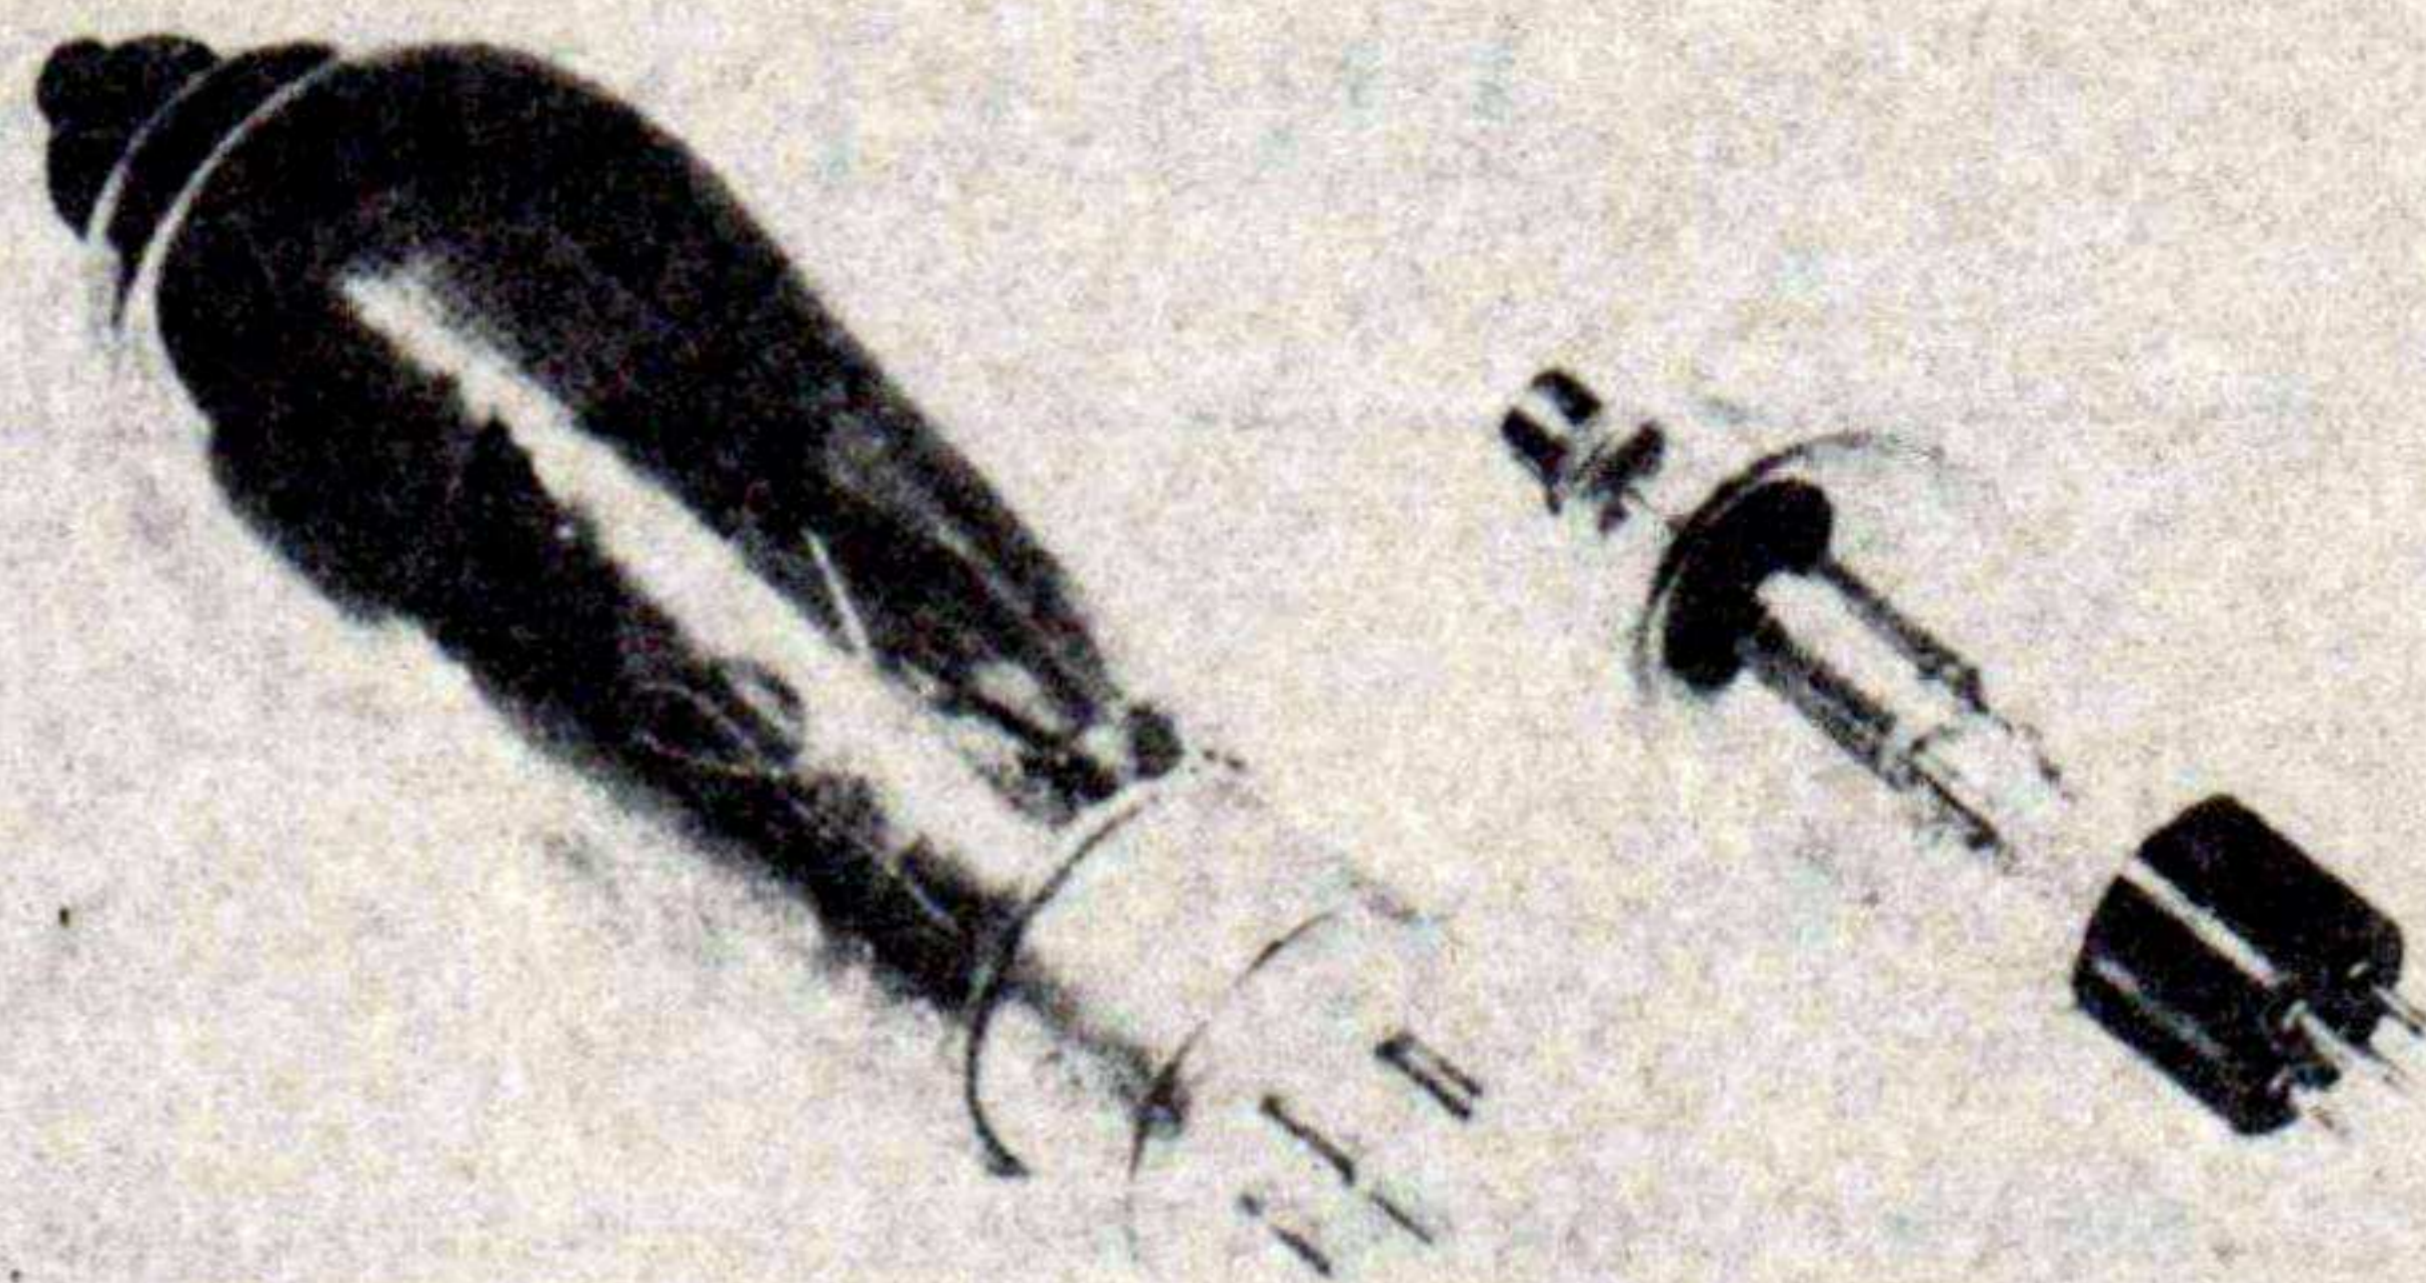

Figure 19. Types of tubes used in Meter Test Equipment AN/GSM-1.
c. Clean (C). Keep rectifier tubes (fig. 19) spotlessly clean. Accumulations of dirt or dust form leakage paths which, at the high voltages used in these tubes, may result in arc-over and break-down.
(1) Do not remove tubes from their sockets for cleaning unless they are very dirty and cannot be readily cleaned while in the socket.
(2) Use a clean, dry cloth to clean tubes. When dirt is stubborn, use a cloth moistened with dry-cleaning solvent (Solvent, Dry Cleaning (SD), Federal spec No. P-S-661a). Crocus cloth may be used to remove corrosion from tube caps, tube pins, and socket contacts.